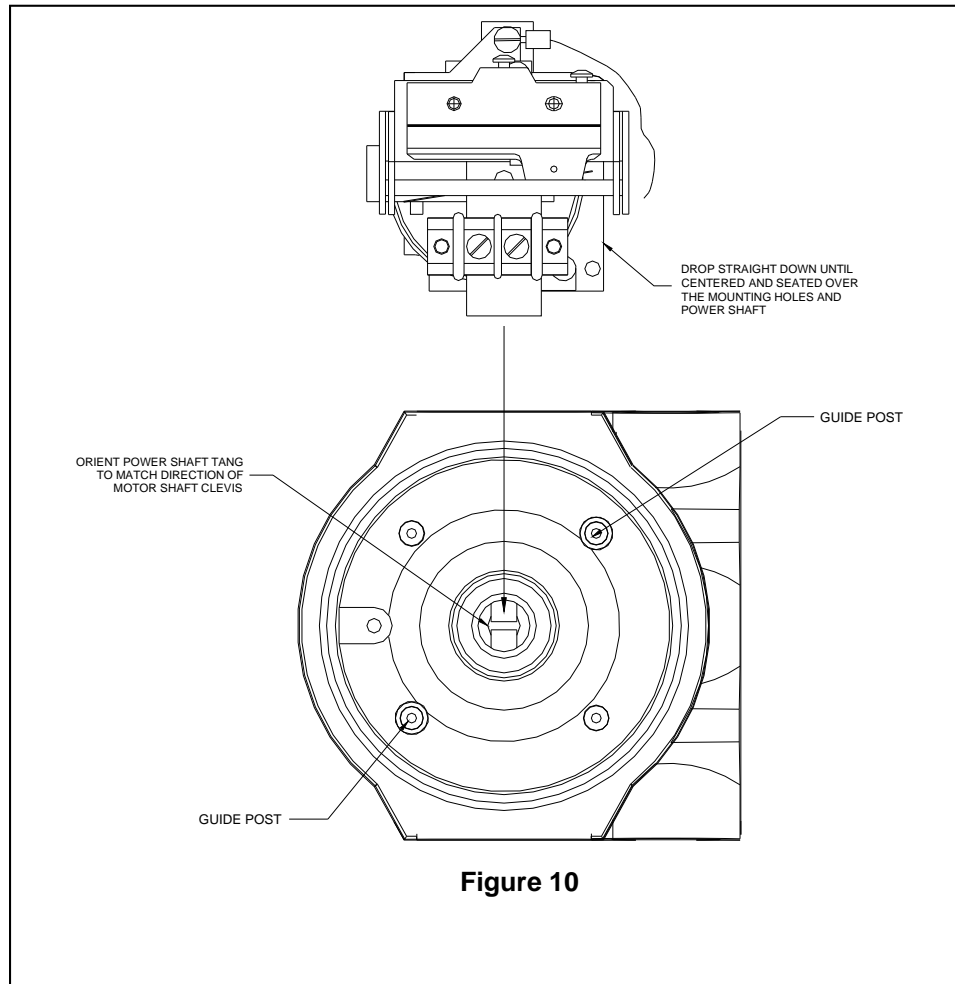

Figure 10
1. Orient both the finished assembly with respect to the housing and the main power shaft inside the bottom of the housing in a horizontal line as shown in **Figure 10**.